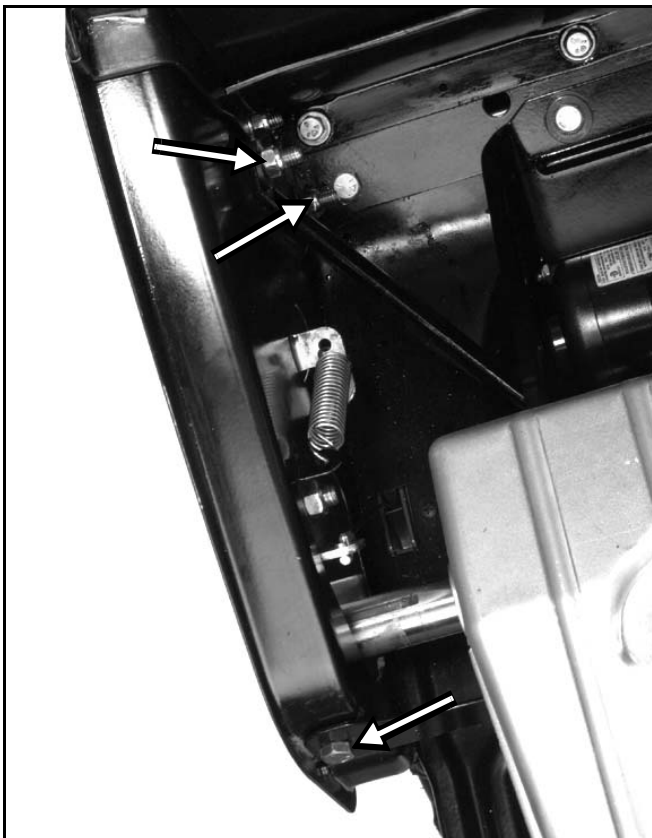

Figure 24
10. On the left side of the engine, is an engine brace which is bolted to the side plate in 3 places (Figure 24). Remove all three bolts.